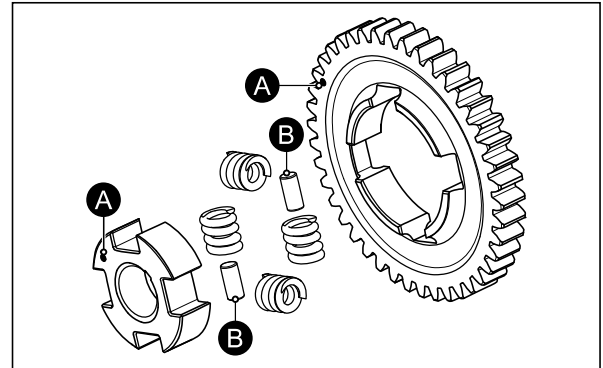

Fig. 3.168
While reassembling the gear balancer shaft ensure that the dots (A) on the race balancer gear driven and gear balancer driven should be aligned and the pin balancer shaft driven (B) should be placed opposite to each other. (Fig. 3.168)